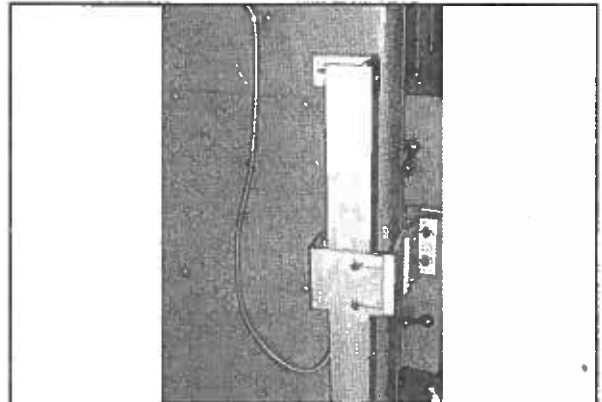
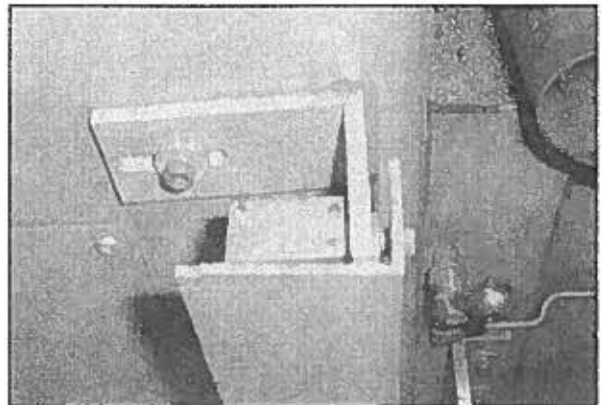

Figure 21. Bracket mounting location.
Figure 22. Mounted scale cover.
1. The "Z" axis scale should be installed on the side of the column, ensuring that the open side of the scale is away from the direct metal shavings and coolant and that the travel is in the right direction, "-" towards the spindle and "+" away from the spindle. The bracket should be mounted on the knee (**Figure 21**), and around the scale to allow for the cover to protect the scale (**Figure 22**), where excessive coolant and metal shavings are present.